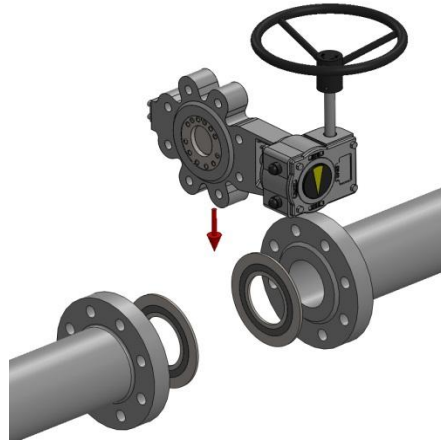

Fig. 2d
- The valve may be installed in the pipeline with the valve shaft in a horizontal, vertical or intermediate position. Where possible it is recommended that the shaft is positioned horizontally as this helps to prevent any dirt or process fluid collecting in and around the bearing cavity. (see fig. 2d)